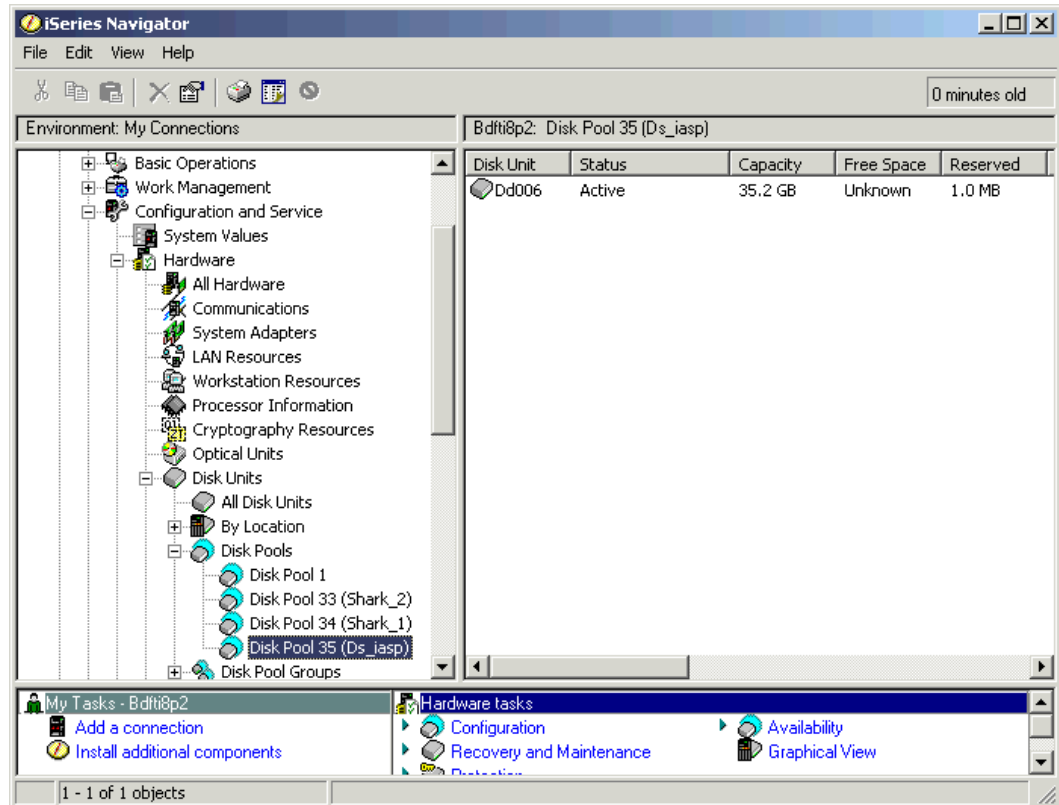

Figure B-21 New logical volume shown on iSeries Navigator
16. To see the logical volume, as shown in Figure B-21, expand **Configuration and Service, Hardware, Disk Pools** and click the disk pool you just created.